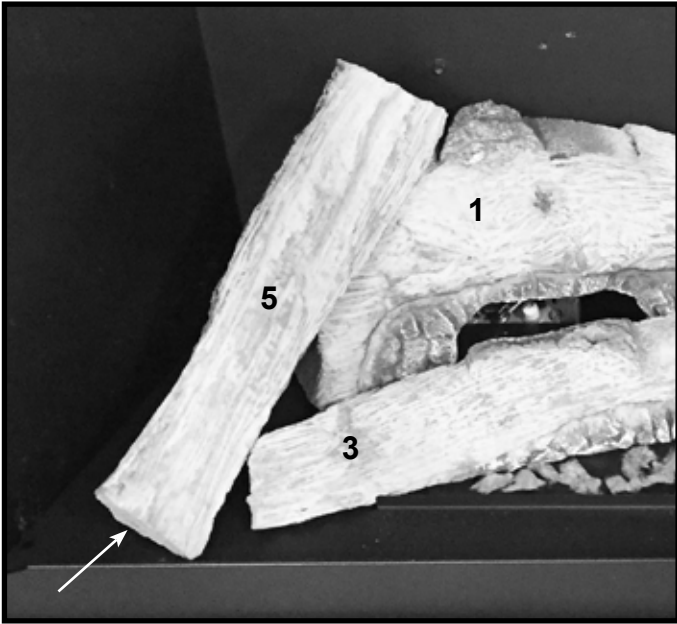

Figure 9. QUARTZ36: Install Top Left Log
- QUARTZ36 ONLY:** Locate and install Top Left Log (5). This Log does not have any “burn out” features painted on the log. The “left” end of this log will rest on the base pan and the “right” end will rest on the “left” end of Left Rear Base Log. See Figure 9.